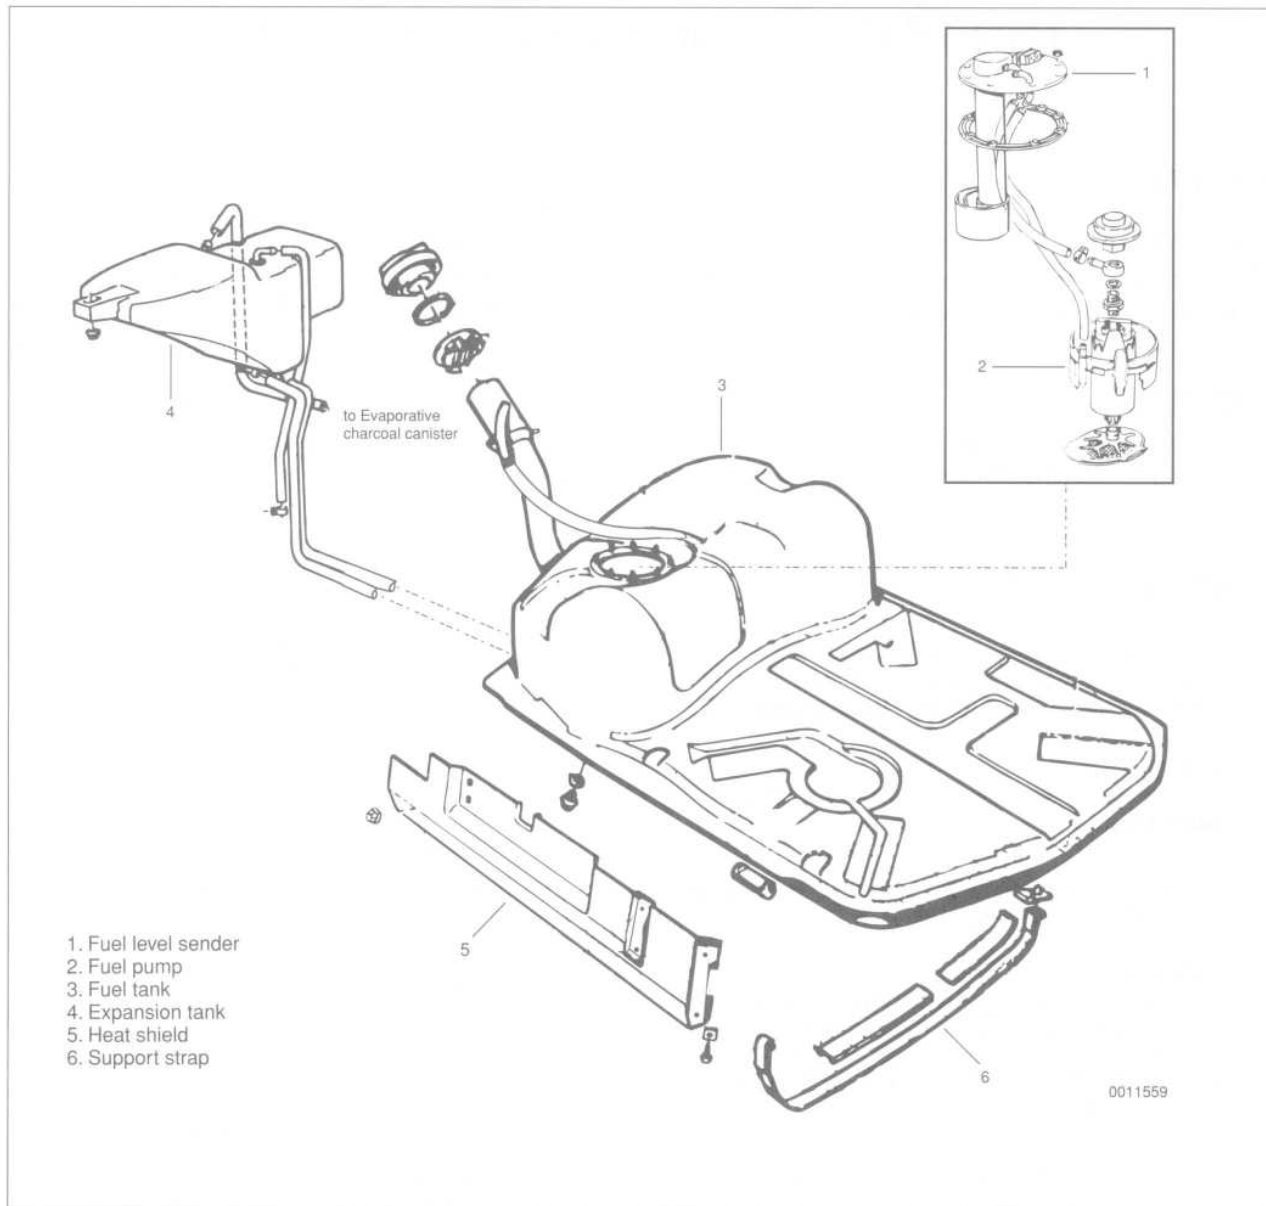

Fig. 1. Fuel tank assembly.
The metal fuel tank is located at the rear of the car beneath the luggage compartment. The tank capacity is 81 liters (21.4 gallons). Mounted in the fuel tank are the fuel level sender and the fuel pump. Connecting lines for the evaporative emission control system and expansion tank are also attached to the tank. See Fig. 1.
7. While supporting the tank from below, remove the fuel tank heat shield and support strap mounting bolts. See Fig. 1. Carefully lower the tank from the car.